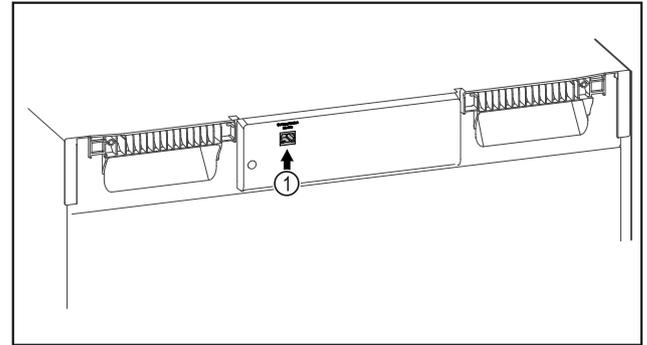

Fig. 112
- SmartModule Fig. 112 (1) is in use.